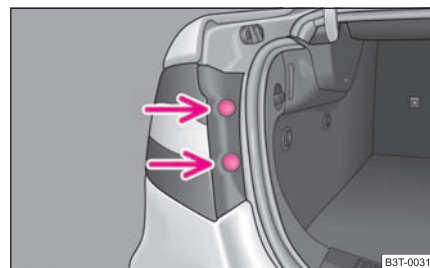

Fig. 222 Remove the outer
- Take out the plug ⇒ page 249, fig. 222 and unscrew the rear light unit using a torx wrench¹⁸⁾.
- Screw the rear light unit tight and press in the plugs ⇒ page 249, fig. 222.